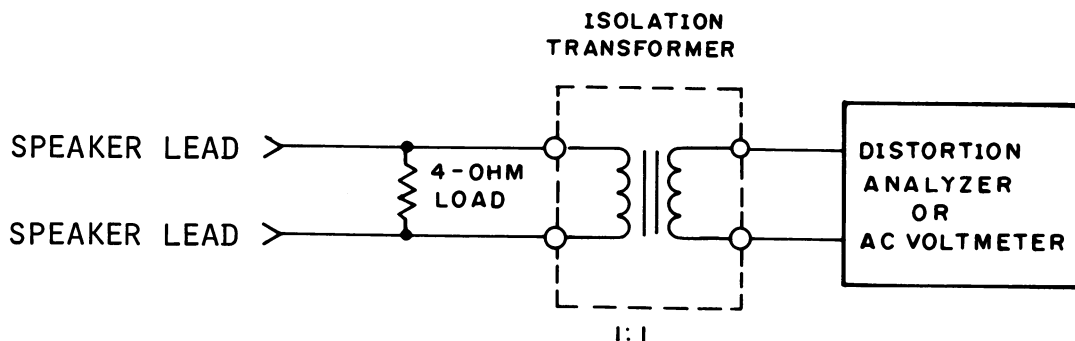

Figure 5 - Audio Isolation Transformer
5. Connect the 4-ohm load, isolation transformer, and distortion analyzer or AC voltmeter as shown in Figure 5.
Connect the isolation transformer input across the resistor. Connect the isolation transformer output to the Distortion Analyzer (See Figure 5).